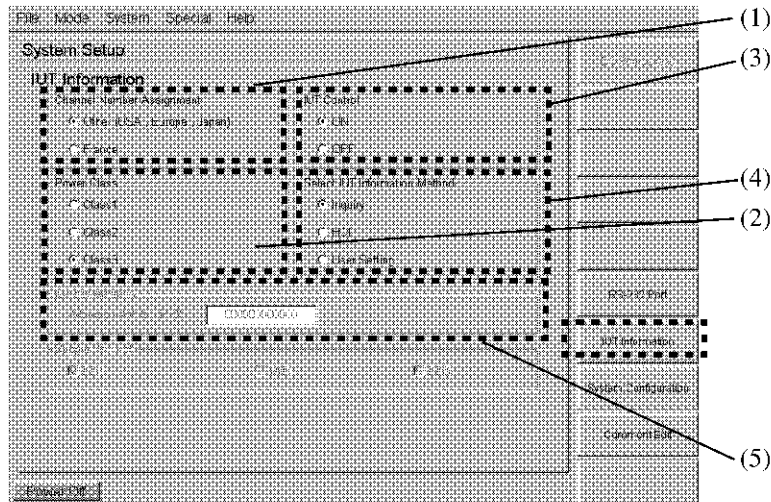

Figure 2-33 IUT Information
The IUT Information ((1) to (5) in Figure 2-33) is used to specify the settings that correspond with the IUT.
1. Select either channel 79 or 23. ((1) in Figure 2-33.)
2. Select the maximum RF transmission-power output class which is defined in the SIG. ((2) in Figure 2-33.)
3. Select a tested device control (IUT control) method by using the RS-232 port on the R4870 rear panel. ((3) in Figure 2-33.)
4. Select whether to set the board address of the tested device and the support packet information automatically or manually. ((4) in Figure 2-33.)
5. If the User Setting is selected in step 4, enter the board address of the tested device. ((5) in Figure 2-33.)
6. If the User Setting is selected in step 4, multiple DH1, DH3, and DH5 packet types can be selected arbitrarily. ((5) in Figure 2-33.)